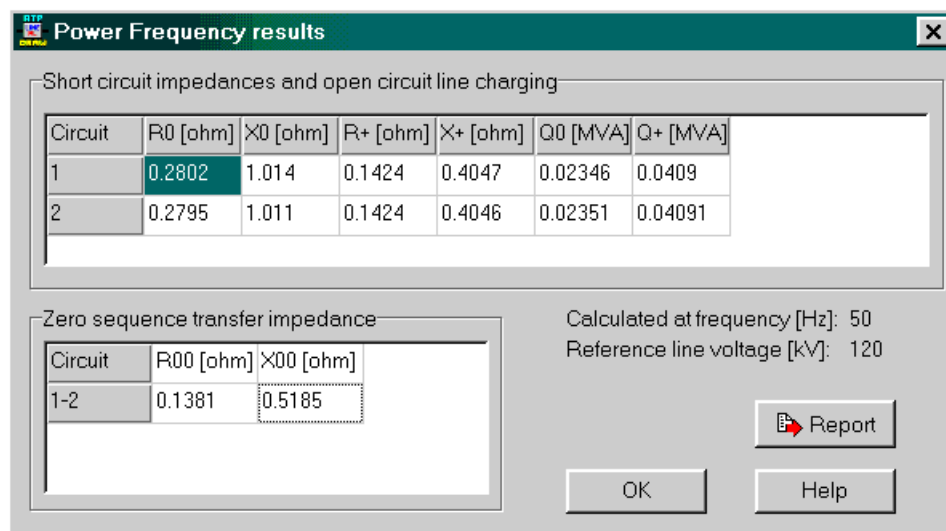

Fig. 5.31 - Results of the PFC run.
b) Select PFC: For the PFC test the user must specify the power frequency and the base voltage level for scaling of the reactive charging. Clicking on *OK* will result in the generation of a PFC data case called *xVerifyF.dat* and execution of ATP based on the settings of the ATP-Command (*Tools | Options / Preferences*). In this case, each circuit is tested individually (all other phases are left open while a specific circuit is tested). The library file describing the electrical model of the line/cable is included in a new ATP case and supplied by unity voltage or current sources in order to calculate the steady state short circuit impedances and open circuit reactive line charging. The file *xVerifyF.lis* is read by ATPDraw and the short circuit impedances together with the open circuit line charging is calculated in the zero-sequence and positive-sequence mode. The results of the calculations are displayed in Fig. 5.31.
If the user clicks on *Report* the content in the string grids of Fig. 5.31 will be dumped to a user selectable text file. Further details about the operation of the *Verify* feature and PFC option can be found in the Appendix part of the Manual.